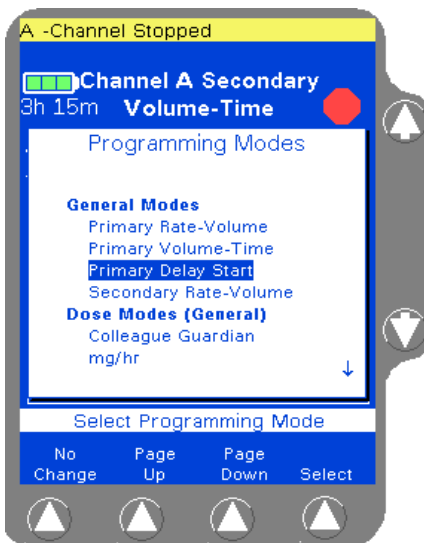

Figure 4-79 Programming Modes Menu
- Use the $\uparrow\downarrow$ keys to highlight **Primary Delay Start** from the Programming Modes menu (Figure 4-79), then press the **Select** soft key.